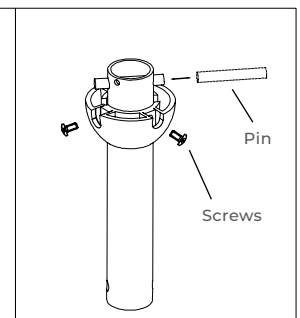

FIGURE 6
B) Replacing the downrod pipe (if applicable): first remove 2 screws, then remove the horizontal pin, then replace the standard downrod with the desired downrod pipe, then reinsert the horizontal pin, and lock the 2 screws. (See Figure 6)